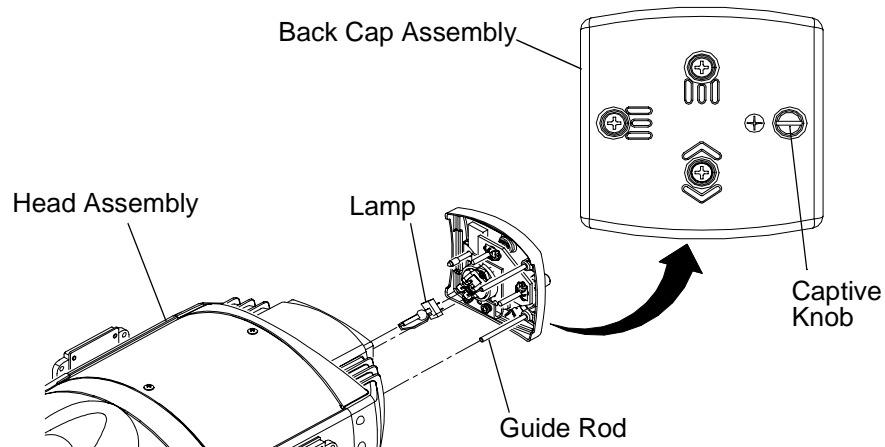

Figure 2-1: Lamp Replacement
Step 2. At back cap, using #2 Phillips screwdriver or fingers, turn captive knob until loose. **Figure 2-1.**